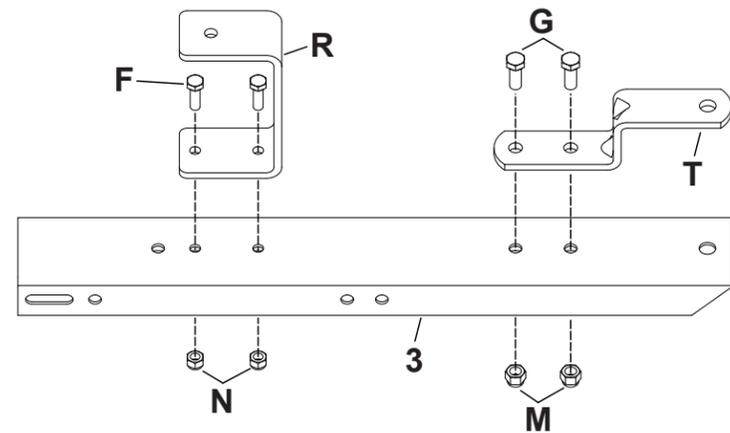

Figure 5
STEP 3 (SEE FIGURE 5): Install hitch bracket (T) onto front tongue (3) with two 3/8-16 x 1" bolts (G) and 3/8" nylock nuts (M).
STEP 4 (SEE FIGURE 5): Install leg stand bracket (R) onto front tongue (3) with two 5/16-18 x 1" bolts (F) and 5/16" nylock nuts (N).
STEP 5 (SEE FIGURE 5): Tighten hardware from steps 3 and 4.